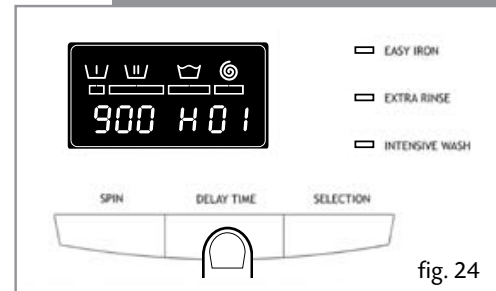

fig. 24
- To select the hours of delay, press the time delay button (Figure 24). Each time the button is pressed the delayed start of washing is increased by one hour.